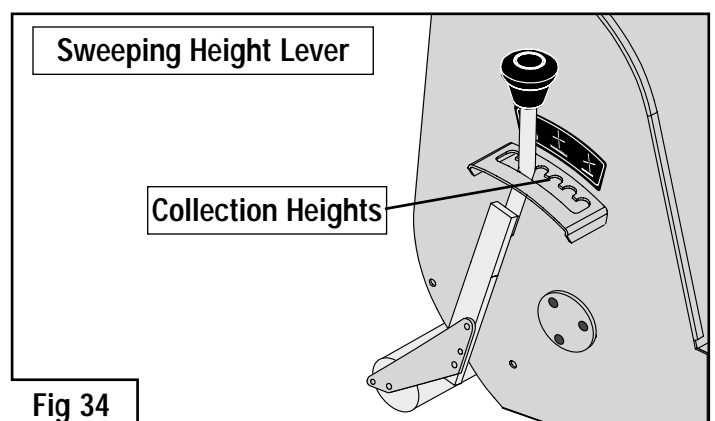

Fig 34
- ✓ That the Brush Height Adjustment Lever is not set too high or too low (fig 34).
ADJUSTING THE SWEEPING HEIGHT - Fig 34